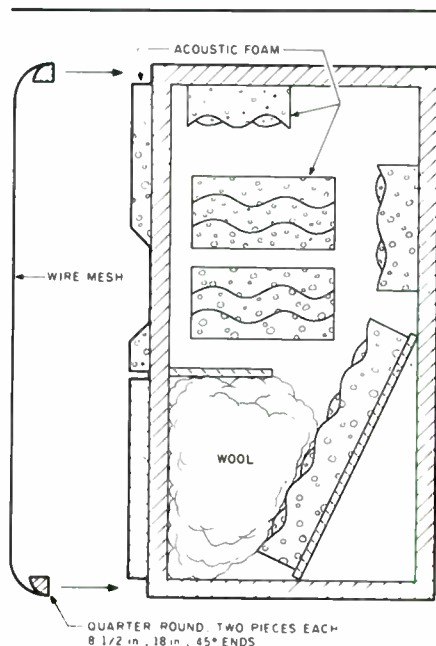

FIGURE 11: A look inside the enclosure.
2. Behind the woofer is a slanted surface to stagger front-to-back and top-to-bottom standing waves (Fig. 11). The surface does not extend all the way to the side walls, so the volume behind it is not cut off from the enclosure. I used leftover lead sheeting and attached it with a layer of putty. You may find thin wood or masonite easier to work with.
5. I staggered several pieces of acoustic foam throughout the cabinet. I wanted to control top-to-bottom, side-to-side, and front-to-back standing waves while occupying as little volume as possible (Fig. 11).
I made my grille frame from 1¼" quarter-round molding, held together with Skotch® #0 woodjoiners, and drilled to accept push-on fasteners. I shaped ½" wire mesh to protrude beyond the woofer, spray-painted the mesh black and stapled it to the frame (Fig. 11), and covered it with grille cloth stapled to the back of the frame.